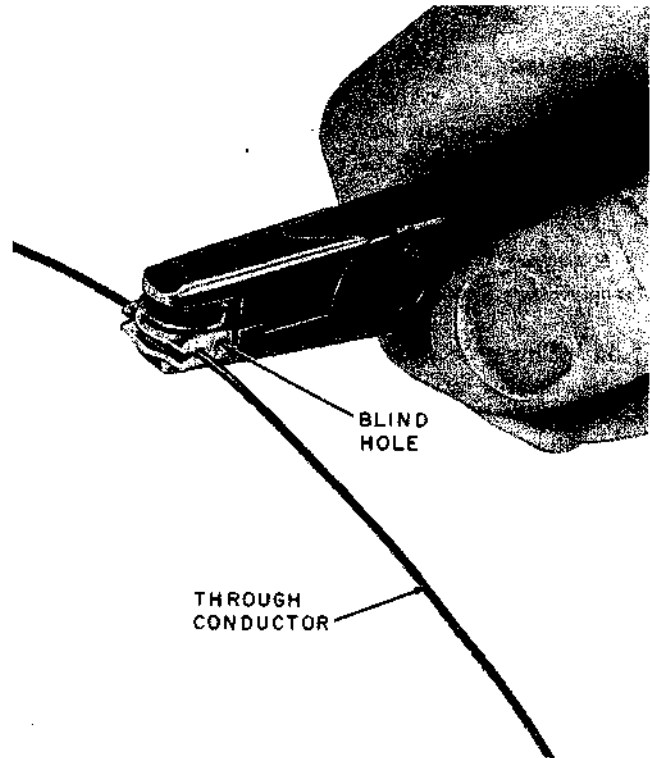

Fig. 4—Connector on Through Conductor
- (2) Push the presser held connector against the through conductor so the conductor enters the open slot and is fully seated beyond the retaining lip (Fig. 4).